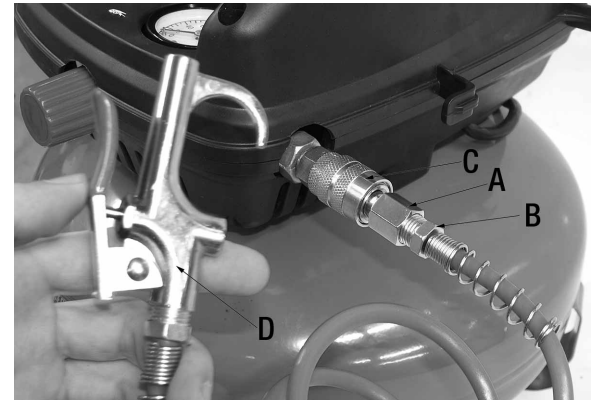

FIGURE 7
2. Attach the 1/4" male fitting (A) Fig.7 to one end of coil hose (B), then connect the male fitting (A) into the quick connect outlet (C), then attach the any of the supplied accessories (D) to the other end of the coil hose. To prevent air leaks, it is recommended to install Teflon Tape (not supplied) on the threads at both ends of the coil hose.